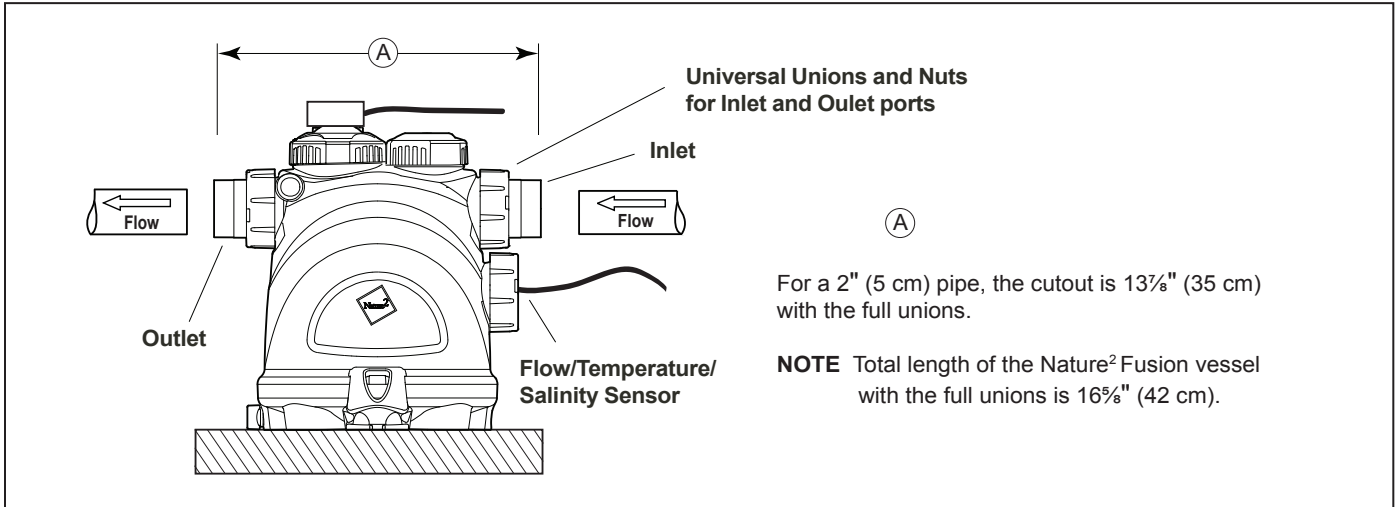

Figure 3. Pipe Cutout
4. Cut out a 13 7/8" (35 cm) section of the 2" (5 cm) pipe to insert the vessel (see Figure 3).
4. Cut out a 13⁷/₈" (35 cm) section of the 2" (5 cm) pipe to insert the vessel (see Figure 3).